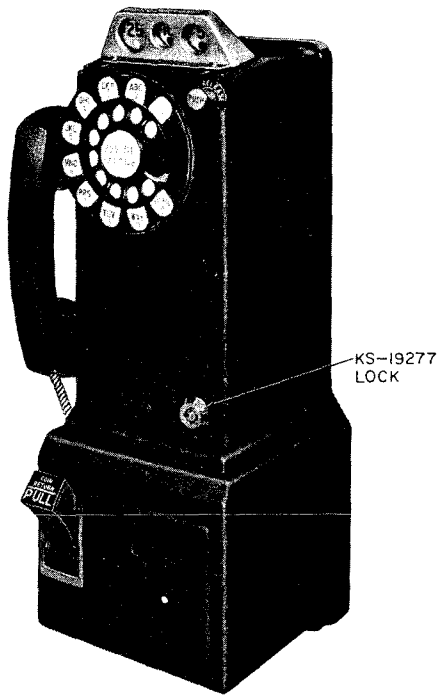

Fig. 14—Coin Collector Equipped with KS-19277 Lock
3.11 The lock (Fig. 14) mounts in a specially provided hole in the lower right side of the upper housing. Drilling this hole is a difficult operation and it is not recommended that it be done in the field.